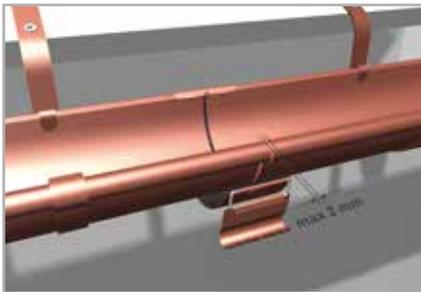

Fig. 21
- 3.10 Install a clamp connector in places where two gutters are to be joined together **(Fig. 21, 22, 23, 24)**